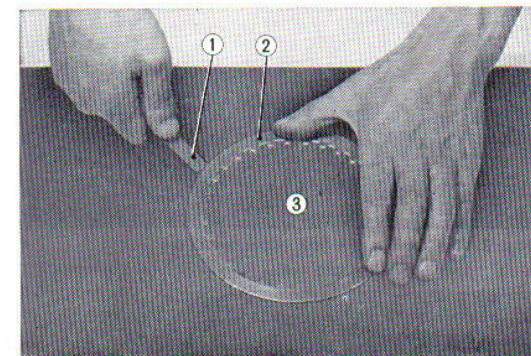

Fig. 3.87 Clutch plate distortion measuring
3. Clutch plate distortion. (Fig. 3.87)